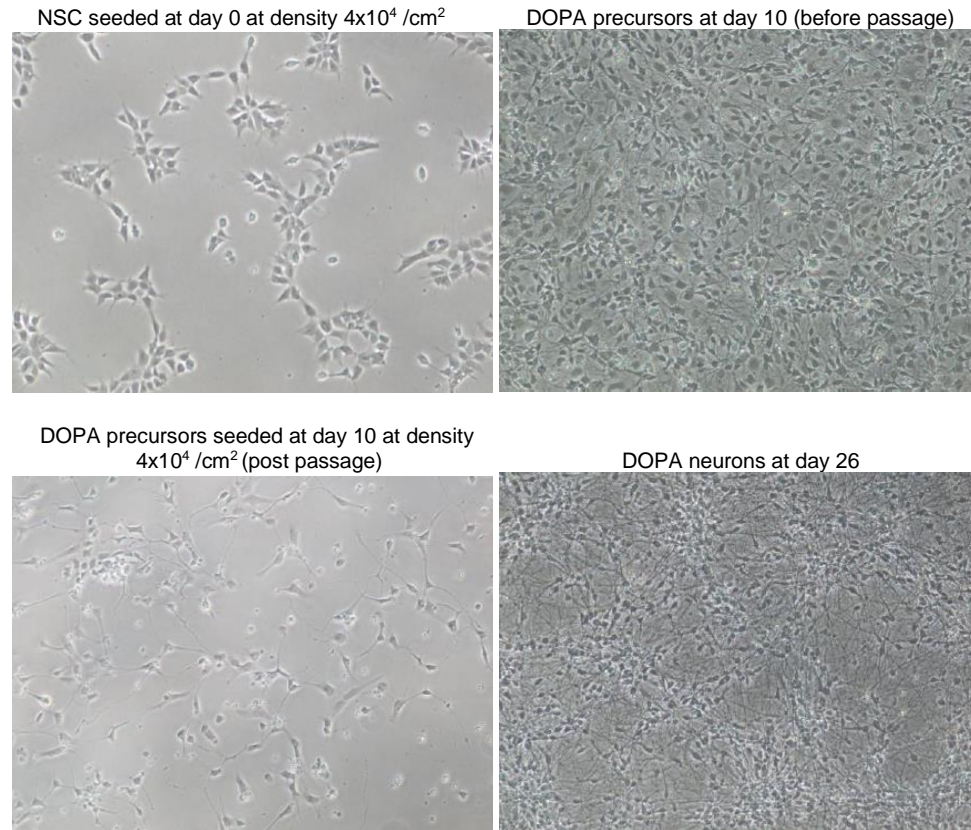

Figure 3. An example of NSC, DOPA precursors and DOPA neurons densities at different stages of differentiation using DOPA Induction and DOPA Maturation Media.
3.2.1 At **day 0**, seed NSC onto poly- L- ornithine/Laminin coated vessels at density ranging from 4x10⁴ to 6x10⁴ live cells /cm² in culture medium used for NSC (Figure 3).